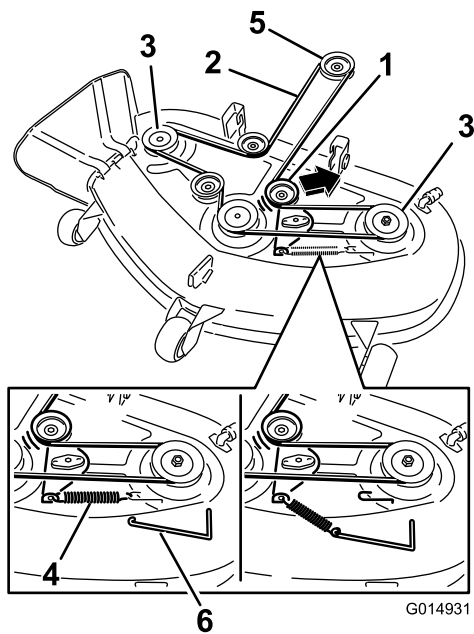

Figure 63
- Using a spring-removal tool (Toro Part No. 92-5771), remove the idler spring from the deck hook to remove tension on the idler pulley, and roll the belt off the pulleys (Figure 63).
6. Route the new belt around the engine pulley and mower pulleys (Figure 63).
7. Using a spring-removal tool, install the idler spring over the deck hook, and place tension on the idler pulley and mower belt (Figure 63).